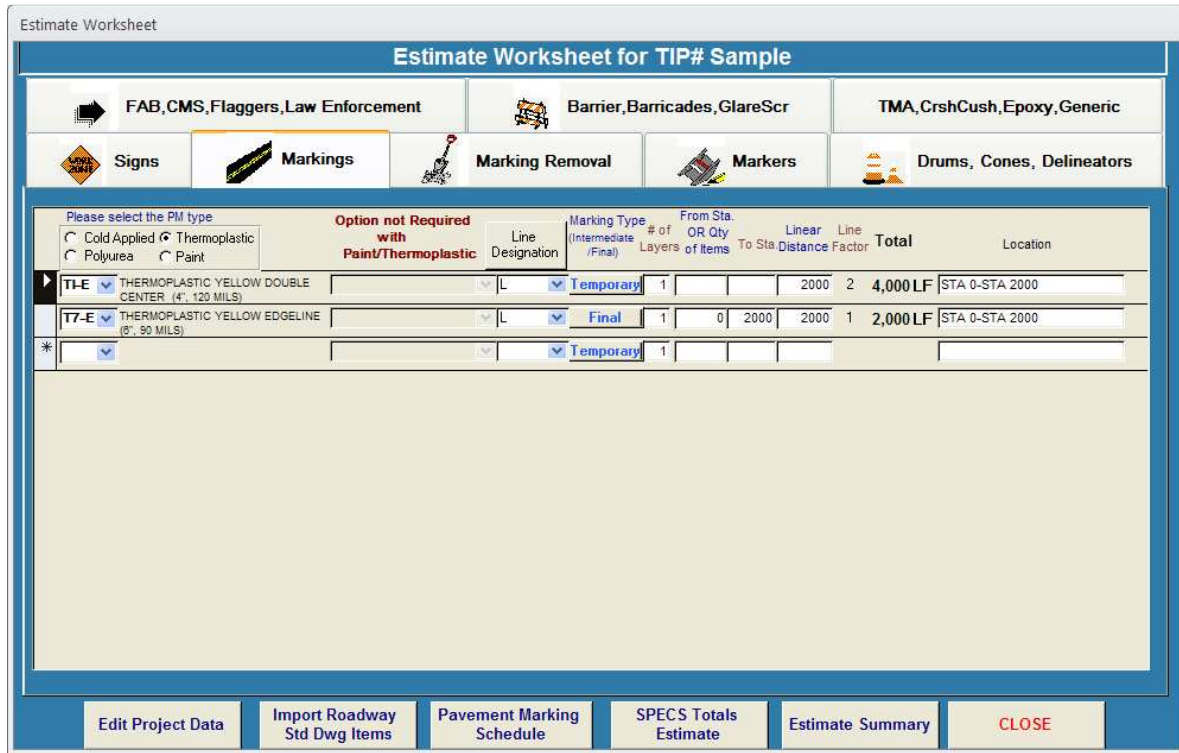

Figure 6
- **Markings** (Fig 6) - Enter each marking line by selecting the marking line code from the pull down menu on the left. Prior to selecting marking line codes from the pull down menu on the left, select the desired pavement marking (PM) type by clicking the appropriate radio button. This will cause the items listed in the pull down menu to correspond to the type selected. Once you have selected the desired type and marking code, be sure to indicate whether or not the marking is temporary or final. You may indicate the marking type by toggling the button. If selecting temporary, be sure to indicate the number of times you estimate the quantity will be reapplied/refreshed in the field during construction.